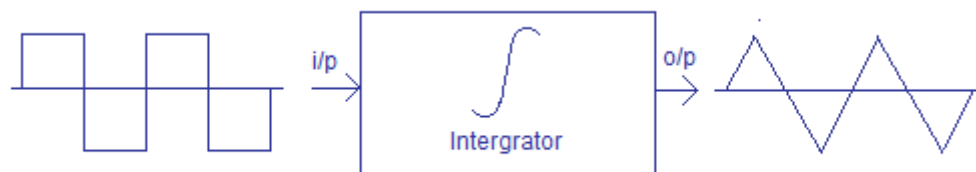

**Figure 5: Miller Integrator Ramp Generator**
- Figure 5 shows the miller integration ramp generator. It is also called Miller integrator. In such a case transistor  $Q_1$  acts as a switch and transistor  $Q_2$  is a common emitter amplifier i.e. a high gain amplifier.
- Let us suppose that a pulse of negative polarity as shown in Figure 5(b) is applied at the base of the transistor  $Q_1$ . As a result of this, the emitter-base junction of the transistor  $Q_1$  is reverse biased and it turns OFF. This causes the transistor  $Q_2$  to turn ON.
- The waveform of the generated ramp or the output voltage is shown in Figure 5(b). The Miller integrators provide excellent ramp linearity as compared to the other ramp circuits.